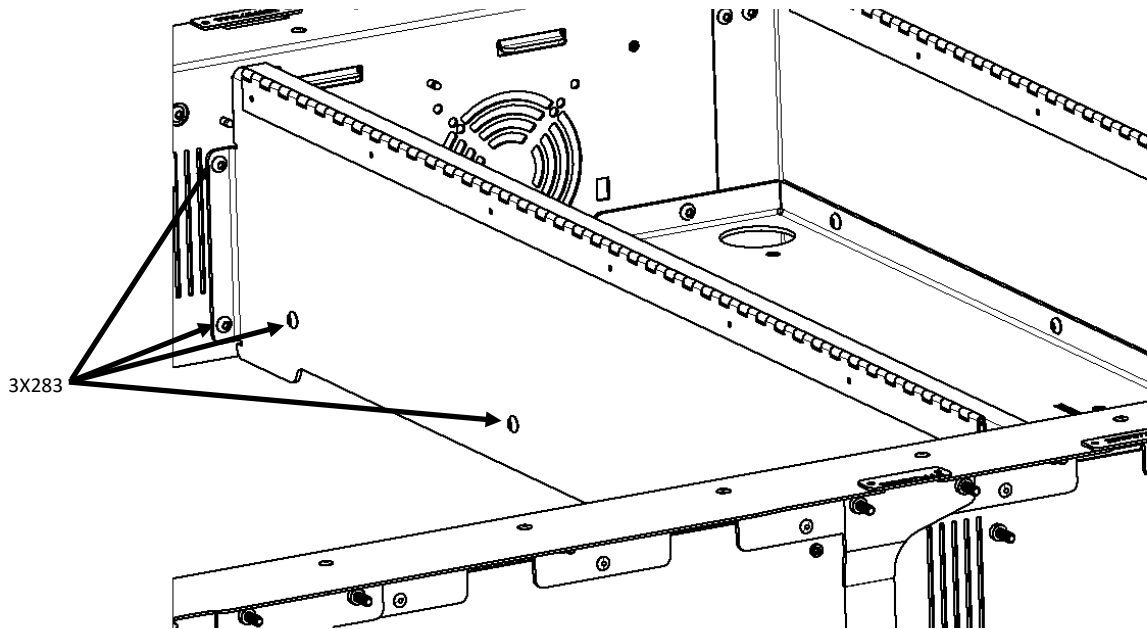

Figure 7
1. Locate the Front Mid Panel Assembly [4STF5725121] and (10) [3X283] 1/4-20x1 Button Head Socket Cap Screws.
2. Mount Front Mid Panel Assembly to Driver Side Panel Assy with 1/4" hex drive as shown in Figure 7. Repeat for attaching to Passenger Side Panel Assembly and Electronics Floor Assembly.